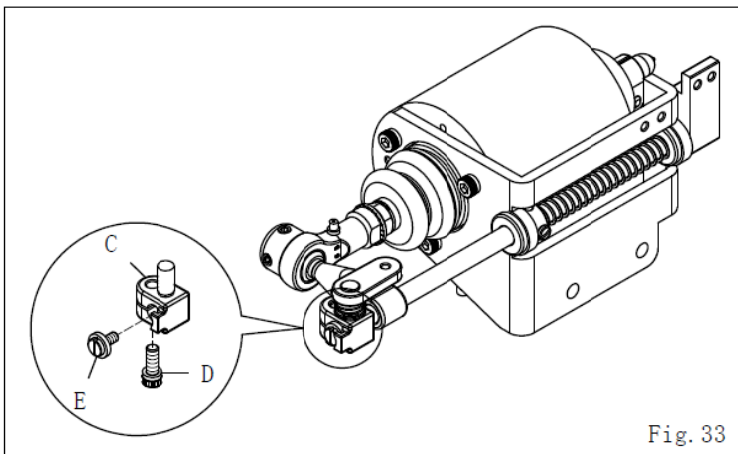

Fig. 33
调整时，可放松连结滑块(C)上的螺丝(D)，再用螺丝刀旋转螺丝(E)，微调活动刀片左右位置至正确点后，再锁紧螺丝(D)。(图33)
When you would like to adjust the right & left position of Moving Knife. First, please loose the screw (D) of Connecting Block (C), to turn the screw (E) by screwdriver for micro adjusting the correct right & left position of Moving Knife., then to locked the screw (D) down. (Fig. 33)